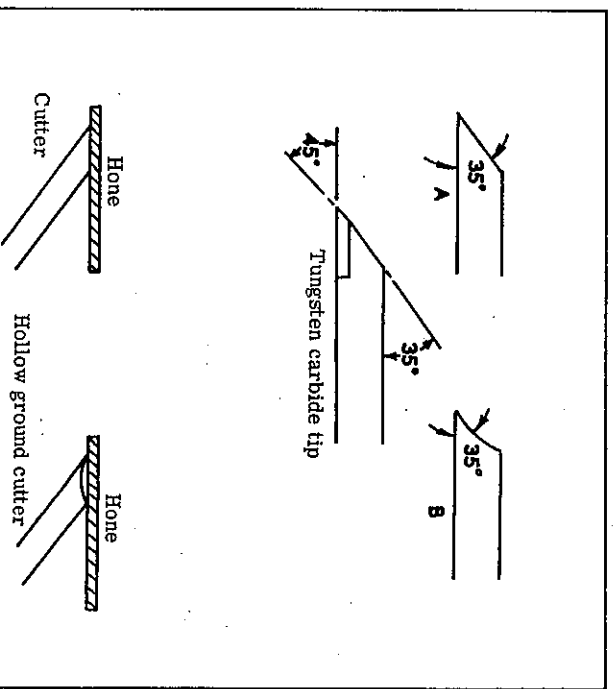

FIG 25
The correct cutting angle of 35° for most cutters should be maintained as this gives the correct strength of the cutting edge. When hollow grinding is carried out, the angle of the cutting edge, should be kept as near 35° as possible, see Fig. 25 (A) and (B).